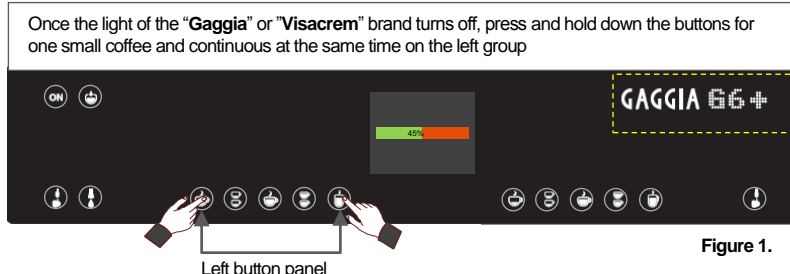

Figure 1.
2. Start the machine by turning the general switch on and wait for the "VISACREM V6 +" or "GAGGIA G6 +" light located on the right of the front panel to turn off (refer to figure 1).